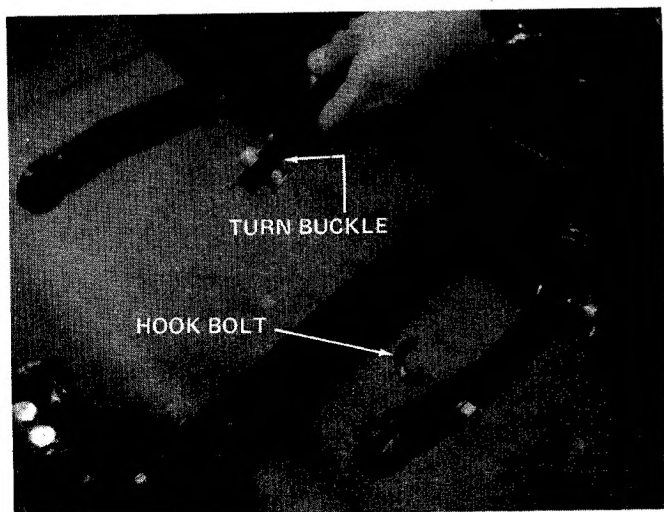

FIGURE 17
8. Remove the turn buckle from tractor. Remove the chains and hook bolts from three point hitch. See figure 17.